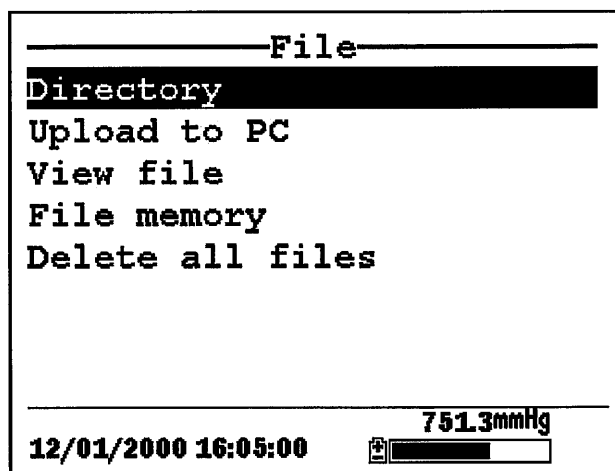

Figure 8.2 File Screen
2. Use the arrow keys to highlight the **Directory** selection. See Figure 8.2 File Screen.